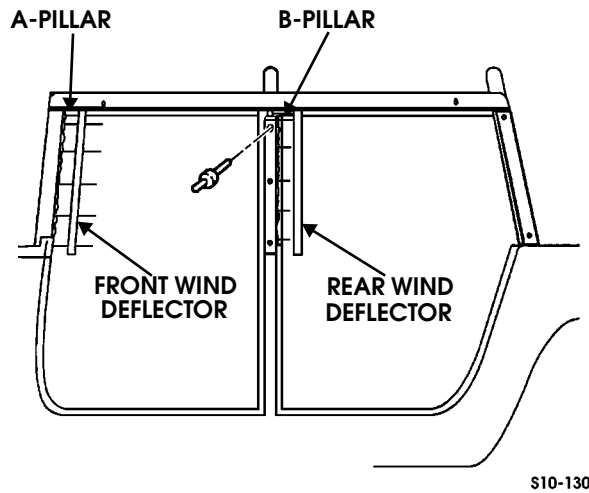

Figure 10-137: Wind Deflector Removal
10. Remove ten rivets securing front and rear wind deflectors to A-pillar and B-pillar (Figure 10-137).